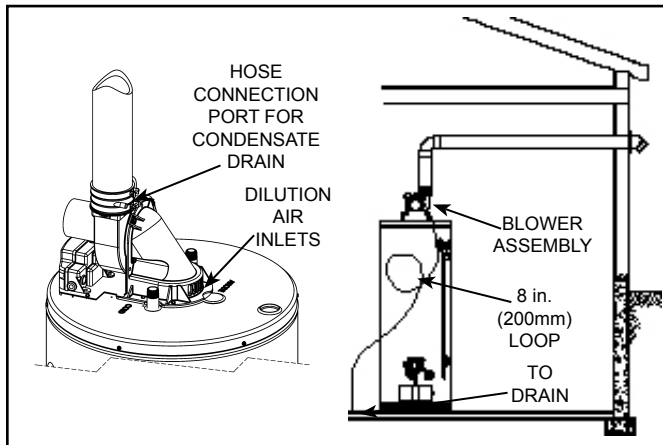

Figure 30
1. This power vented water heater comes with blower assembly installed (see Figure 30).
Condensate formation does not occur in all installations of power vented water heaters, but should be drained on installations where it can form in the venting system. Condensation in the venting system of power vented water heaters is dependent upon installation conditions including, but not limited to, ambient temperature and humidity of installation location, ambient temperature and humidity of venting space, vent discharge and slope, and product usage. In certain conditions, installations in unconditioned space or having long horizontal or vertical vent runs can accumulate condensate. Long lengths of venting that pass through cool/cold areas will experience condensation. The vent pipe should be sloped upwards away from the blower assembly, then adequate means for draining and disposing of the condensate needs to be made by the installer. If installation conditions cause condensation, install a condensate trap loop approximately 8 in. (200mm) in diameter using 3/8" plastic hose. Connect the hose to the built-in drain port of the rubber coupling of the blower assembly (see Figure 30). Loop the hose in a vertical position as shown. The tube loop must be filled with water at least half way prior to operating the heater. Ensure the end of the tube has access to a drain as condensate will flow from the end. Secure the tubing to the side of the heater. Prior to operating the water heater, make sure the removable cap is installed on the drain port (if a drain hose is not needed).